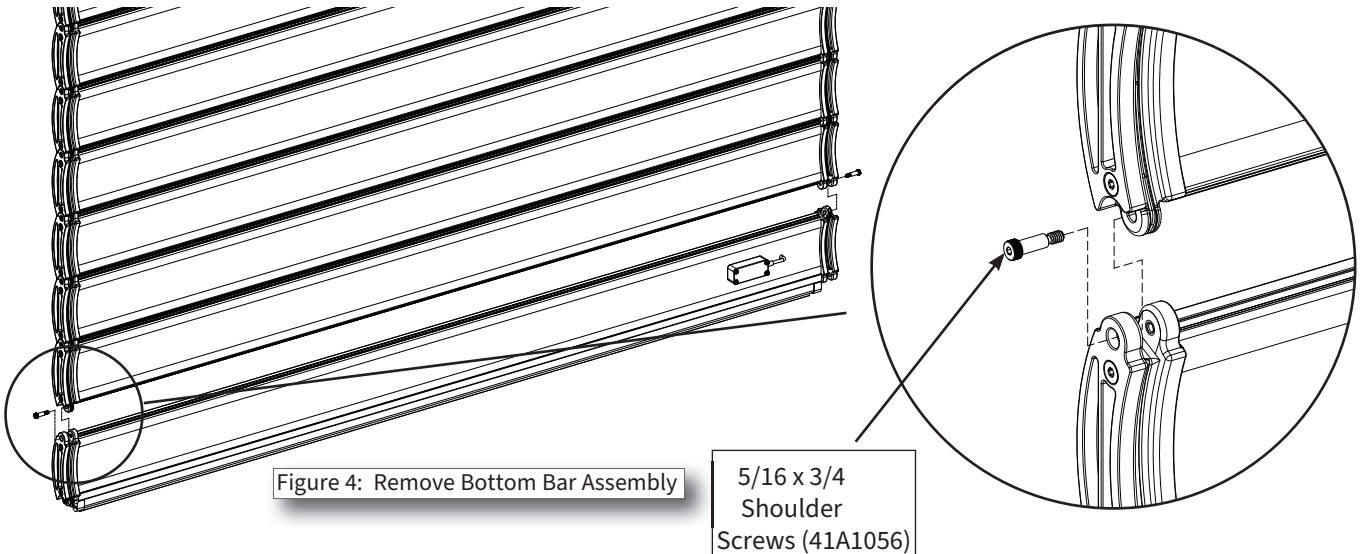

Figure 4: Remove Bottom Bar Assembly
- 2 Support the bottom bar assembly from below and remove the screws holding it to the slat above it. Loosen and remove the 5/16 x 3/4 shoulder screws (41A1056) in endcap links from both ends of slat (Figure 4).